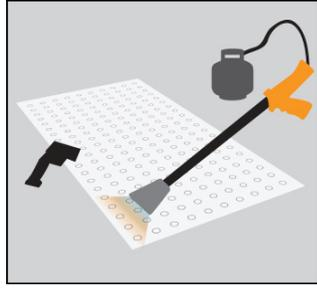

Figure 11: Heat TopMark domed sheet a maximum of 4 sq. ft. at a time.
3. *Heating of the domed sheets:* Start heating the first 4 sq. ft. section of domed material using the Flint 2000EX. Keeping the nozzle of the torch approximately 6 to 8 inches above the TopMark® heat to a range between 215°F and 250°F. Use an infra red thermometer to monitor temperature. (See Figure 11). Heat to a maximum of 4 sq. ft. at a time. **Note: do not overheat the TopMark® material as this will cause the domes to melt.**